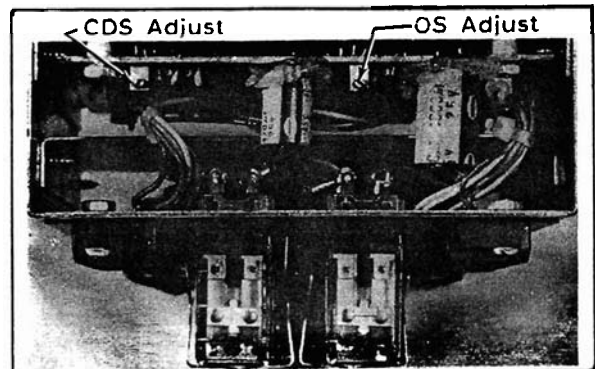

Figure 2. E.C.M. Adjustment
3. Overspeed Adjustment - (OS)
Overspeed protection is provided by a frequency sensing network within the controller. The trip point of the frequency network is adjustable via a rheostat located on the top of the controller at the right hand side. (See Figure 2). Clockwise (CW) rotation increases the trip frequency and, thereby, raises the shutdown speed.
The cranking disconnect signal is obtained by a frequency network within the controller. The trip point of the frequency network is adjustable via a rheostat located on the top of the controller at the left hand side. (See Figure 2). CW rotation increases the trip frequency and, thereby, raises the starter motor drop-out speed. The frequency input is usually obtained from the engine battery charging alternator.